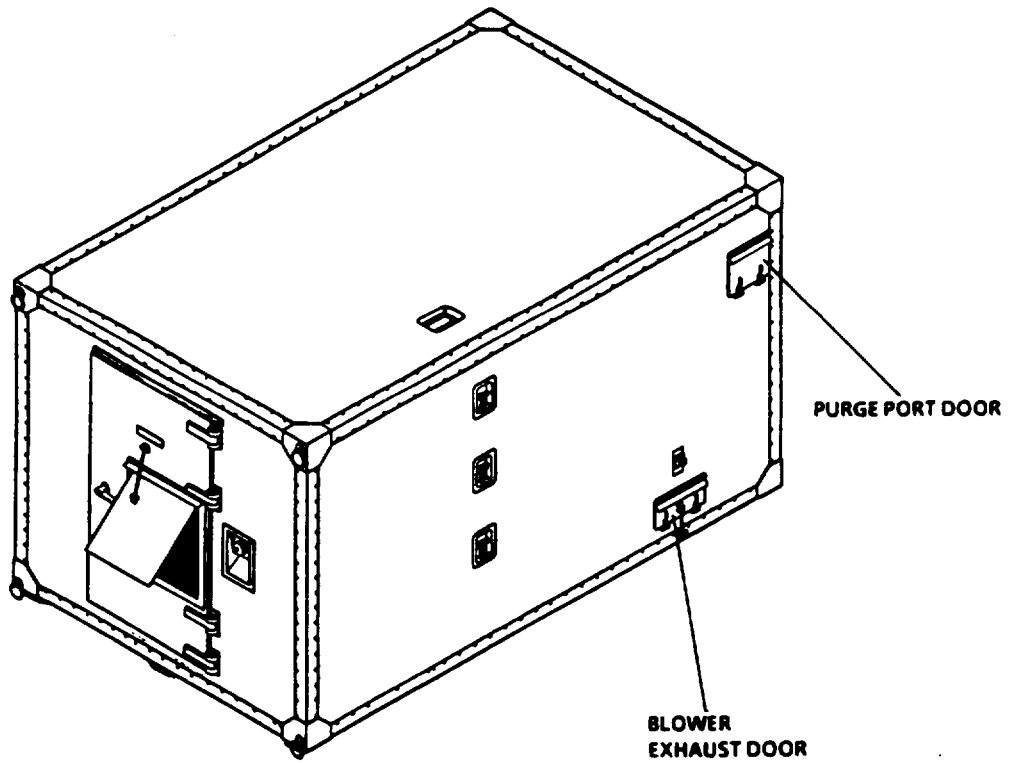

Figure 2-1. Laboratory Exterior
- a. Exterior. Figure 2-1 and Table 2-1 list the laboratory's exterior controls and indicators.